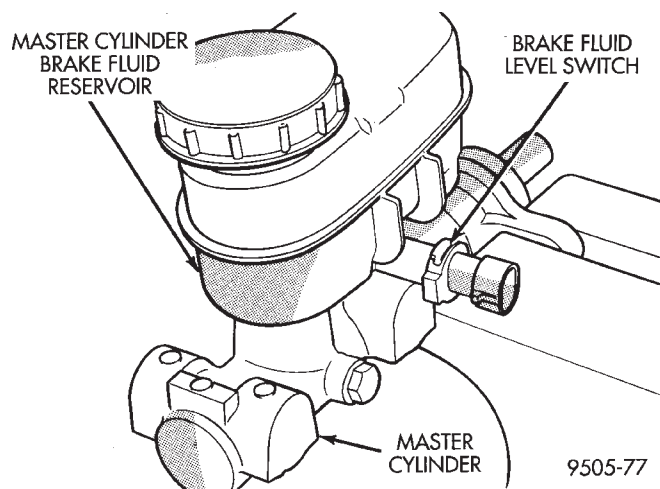

**Fig. 152 Removing Fluid Level Switch From Reservoir**
(3) While compressing retaining tabs, grasp opposite end of brake fluid level sensor and pull it out of master cylinder fluid reservoir (Fig. 152).